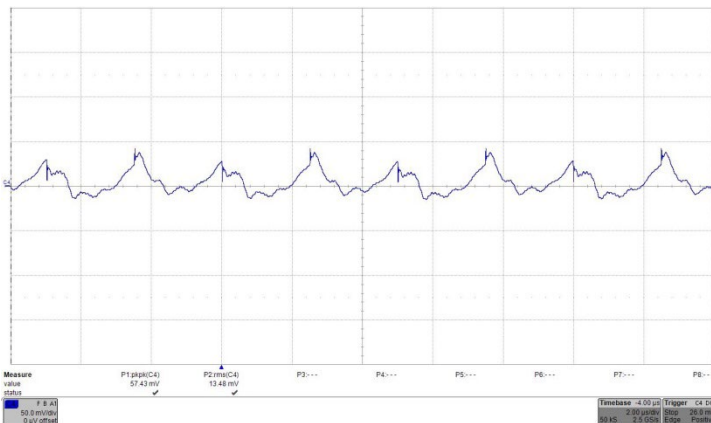

Fig. 23: Output voltage ripple at full rated load current.
a) Without input filter from Fig. 23
b) With input filter from Fig. 23.
b) With input filter from Fig. 23